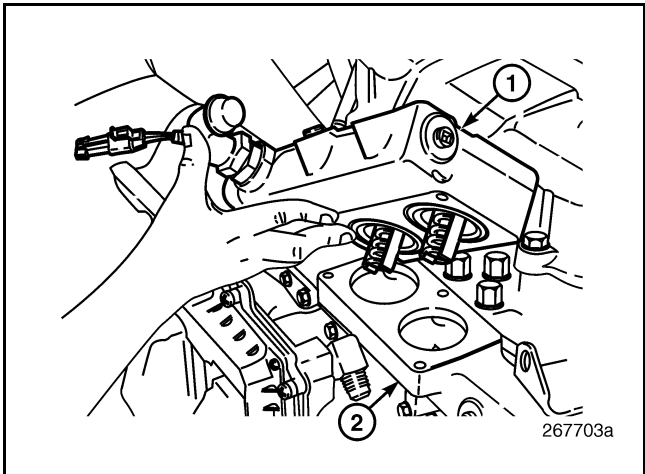

Figure 466 — Thermostat Housing
5. Remove the thermostat housing assembly (Figure 466).
5. Position the housing assembly on the coolant manifold mounting surface and install the three mounting capscrews (Figure 466). Tighten the capscrews to specification.